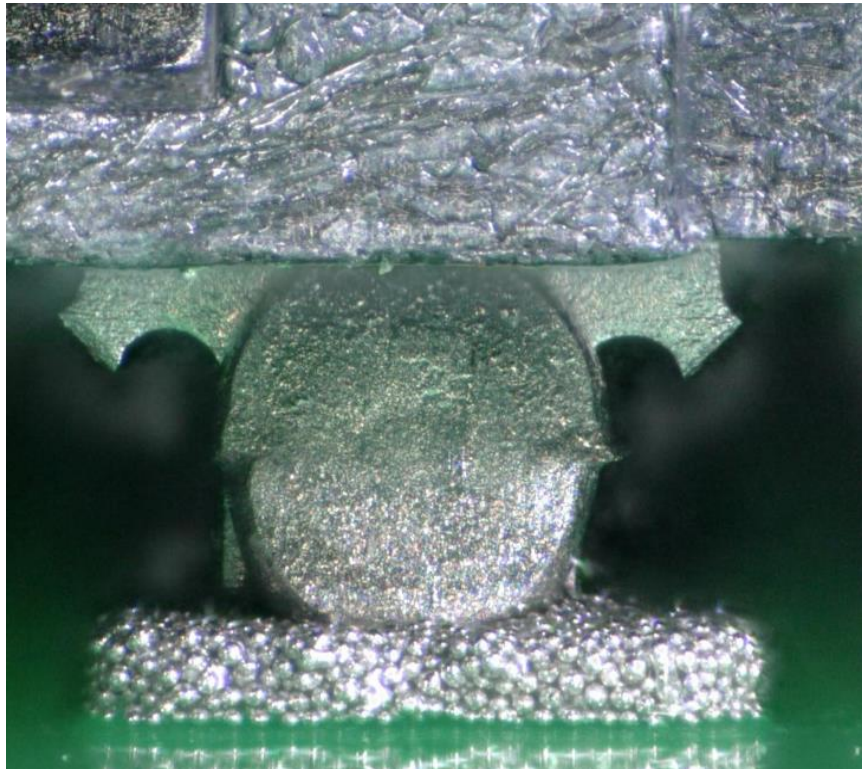
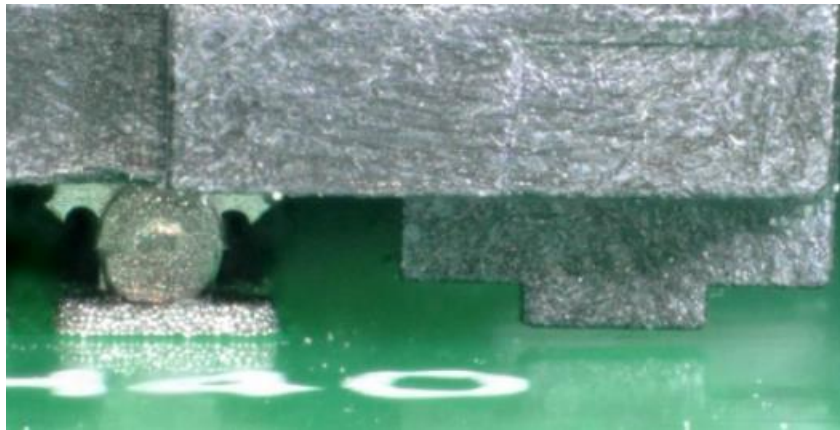

Fig. 2. Solder crimp location relative to solder print. Notice good contact between solder crimp and paste.
Fig. 3. The insulator housing of a fully seated LPAX connector prior to reflow.
- Complete solder pad coverage is critical. The recommended aperture size is intentionally larger than the pad to ensure that the solder crimp comes into contact with the solder paste (see Fig. 2). If this does not occur, proper wetting will not be achieved. Automated inspection of each print is recommended. If solder paste does not completely cover the solder pad the assembly should be rejected, cleaned and re-printed.
- The connector must be fully seated. As previously stated and shown in Fig. 2, it is critical that the solder crimp comes into contact with the solder paste to ensure proper wetting. When using automated pick-and-place equipment, ensure the Z-axis dimension fully seats the solder crimps onto the board surface. Due to nominal variances in solder crimp positioning, i.e. coplanarity, not all crimps will contact the board at the same time. Fig. 3 illustrates a fully seated connector prior to reflow.